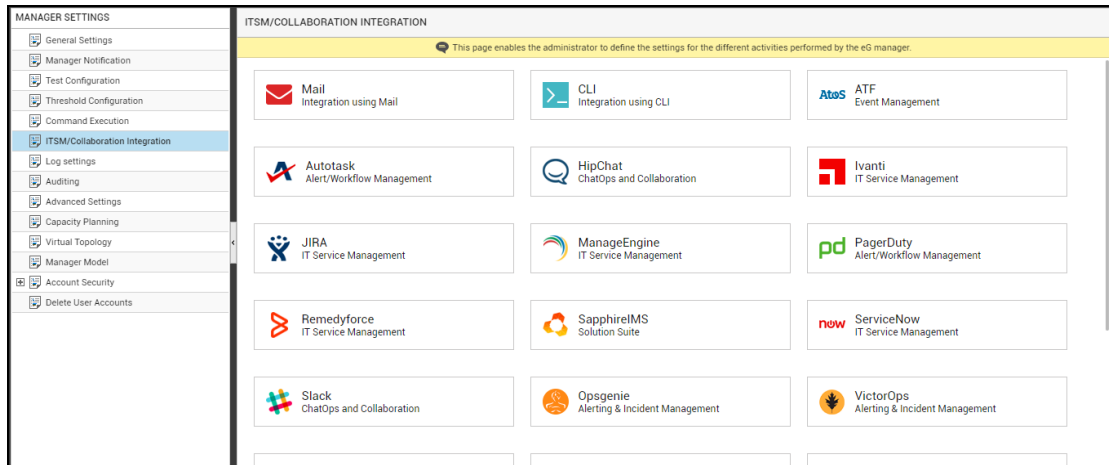

Figure 5.15: Viewing the ITSM/Collaboration tool options
3. Figure 5.15 will then appear. From the **MANAGER SETTINGS** tree in the left panel of Figure 5.15, select the **ITSM/Collaboration Integration** node. The third-party ITSM/Collaboration tools that eG Enterprise can integrate with will be listed in the right panel.
- Now, click on the **JIRA** option in the right panel (see Figure 5.15). A **JIRA** section will now appear in the right panel (see Figure 5.16).